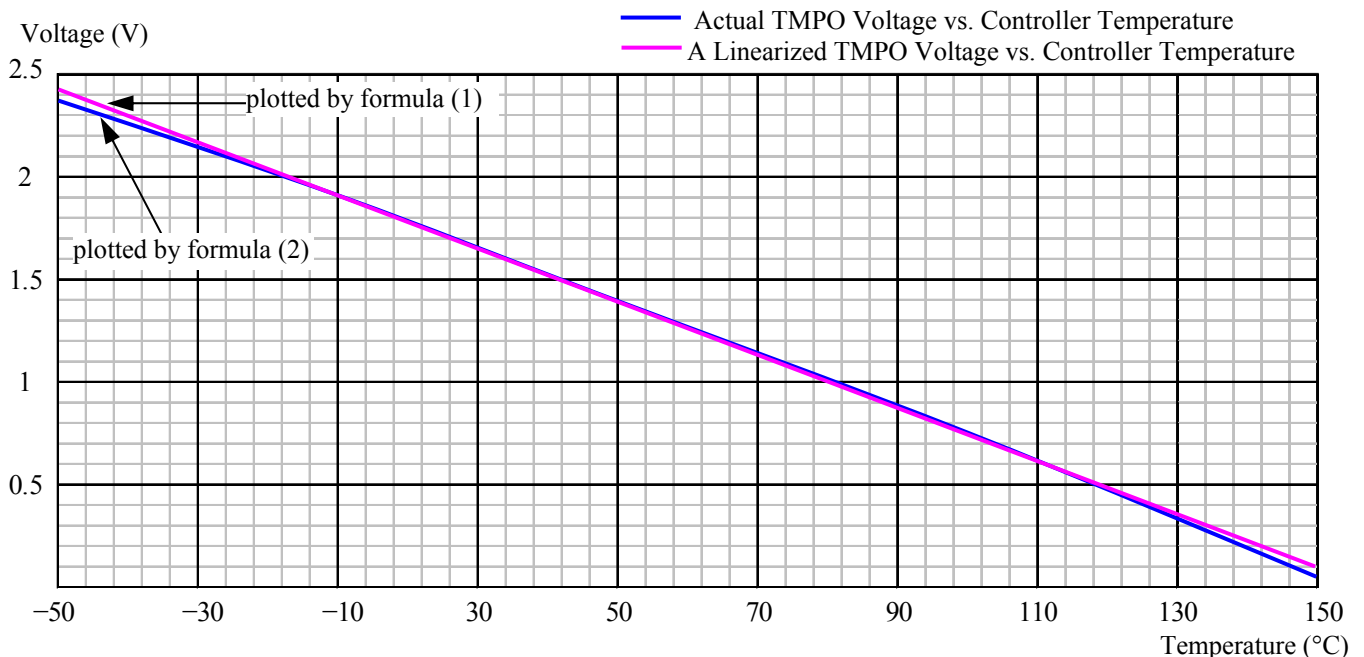

Figure 15. Controller Internal Temperature vs. TMPO Voltage
Within the most commonly used temperature range of between $0^\circ C$ to $100^\circ C$, the maximum error occurs at about 1.5V, at which the temperature error between the calculated data by using the formula (1) and the approximated data obtained by using the linear equation (2) is about $0.4^\circ C$, with the linear data being a little lower. The curves of the 2 sets of the data are plotted in Figure 15.